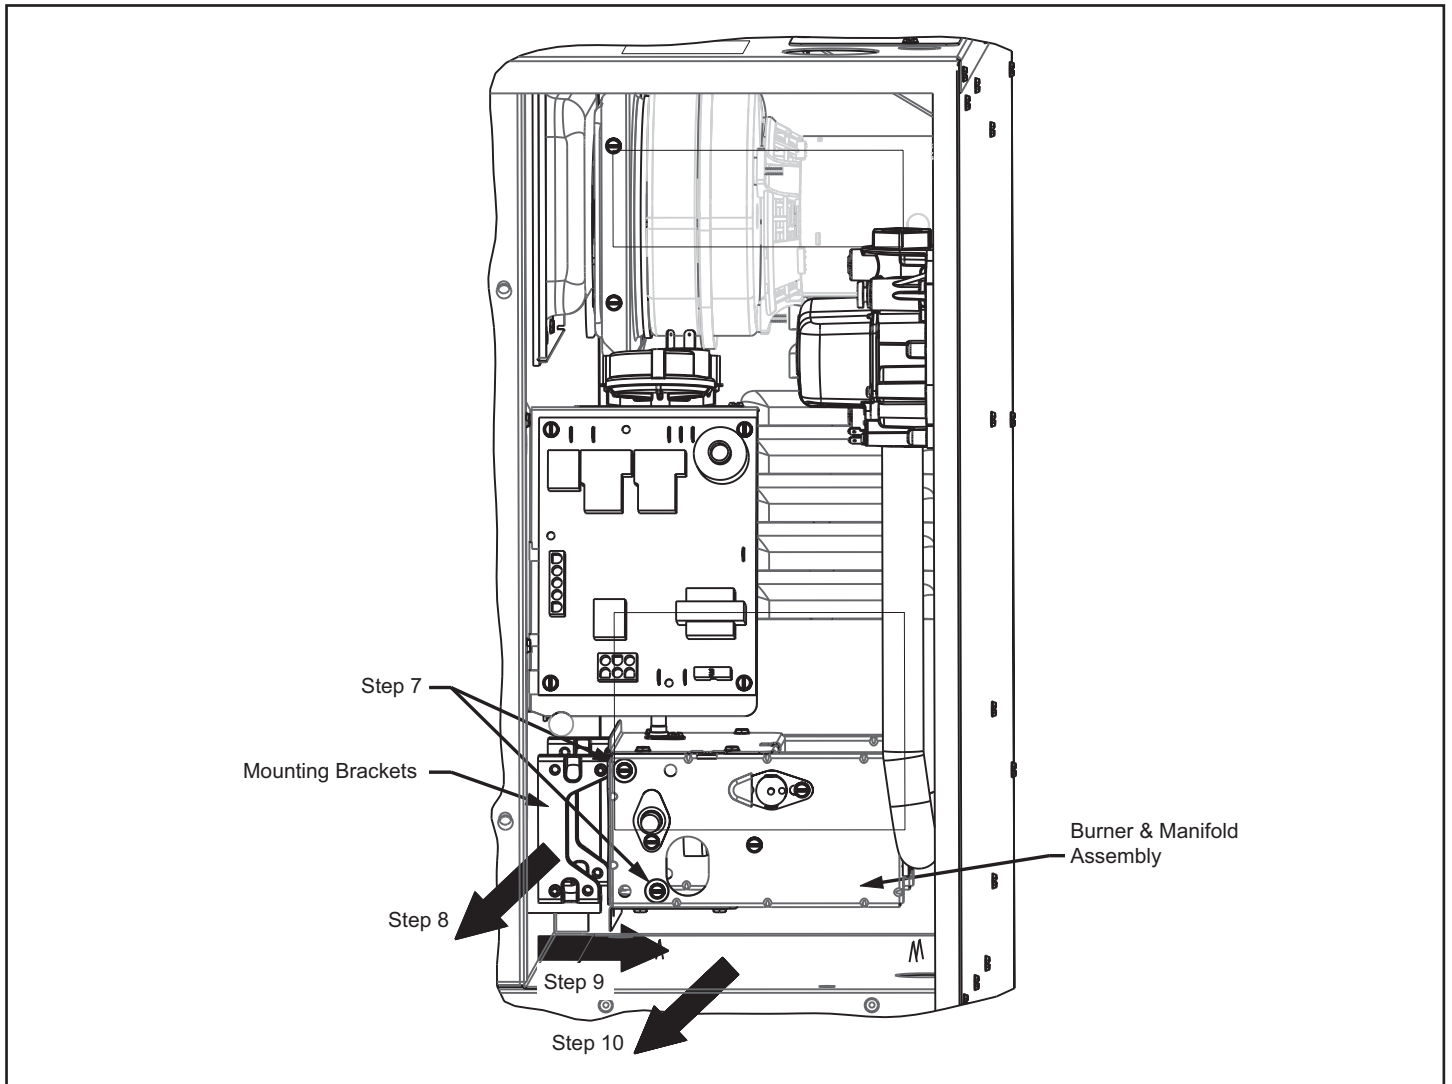

Figure 9. Burner & Manifold Assembly Removal
7. Refer to Figure 9. Remove the two screws on the burner assembly that secure it to the mounting brackets. The mounting brackets contain pins to locate